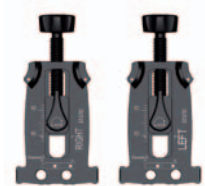

Fig. 42
Press the Sleeve Fixation Button and remove the Screwdrivers/Sleeves. Open the Fixation Lever of the Gamma3 Distal Targeting Arm (Fig. 42 ①).
Now withdraw the Fixation Bolt (Fig. 42 ②) and put the Fixation Bolt back in the Fixation Bolt Storage Pocket of the Distal Targeting Arm (Fig. 42 ③).